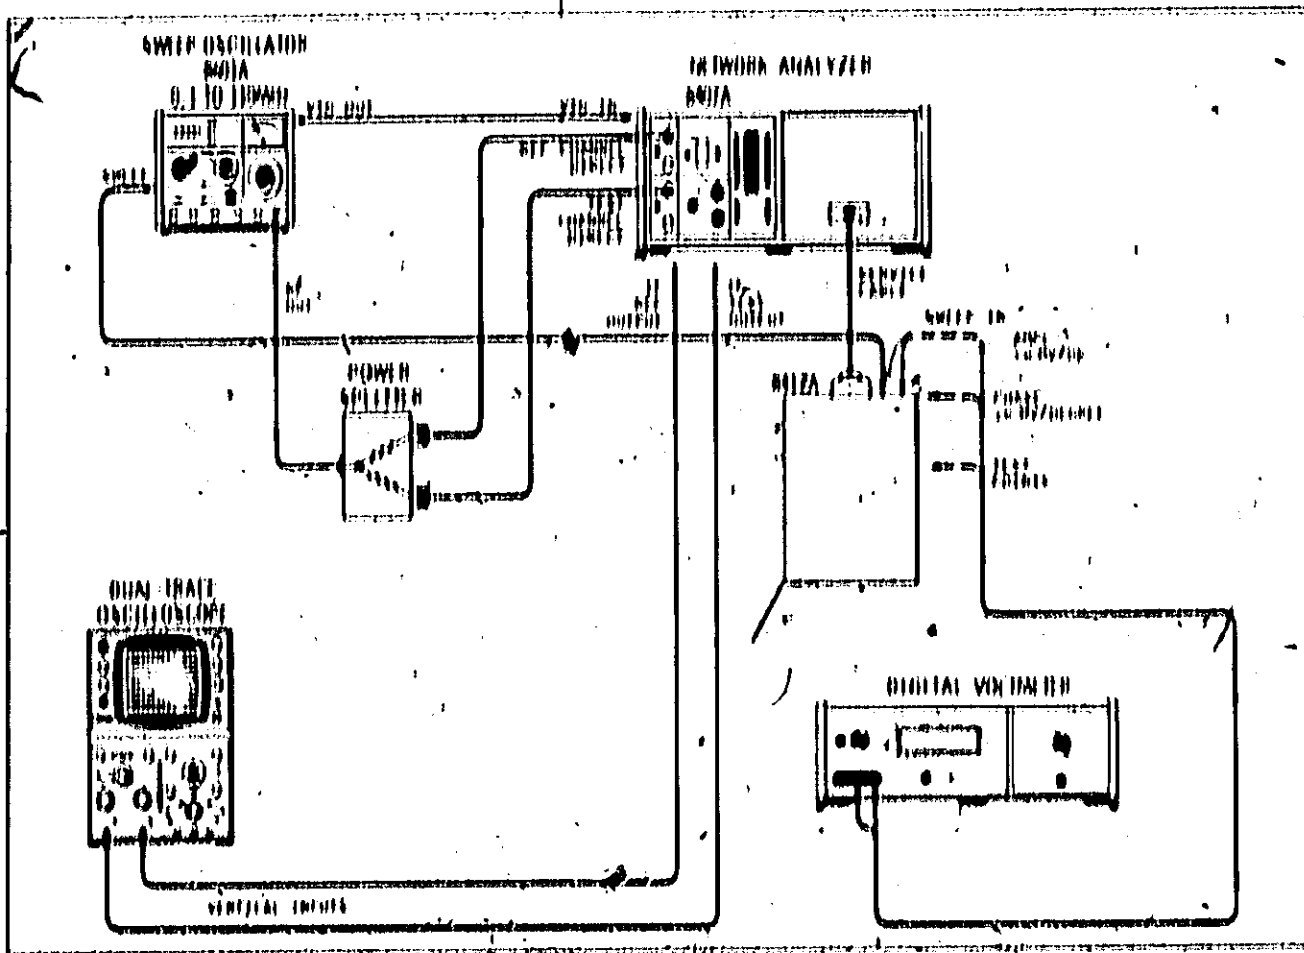

Figure 6-4 Equipment Setup for Aligning Procedures with 8407A Mainframe
1.	<p>INITIAL SETUP</p> <p>DESCRIPTION: Setup and adjust instrument for amplitude and phase trace on CRT.</p> <p>PROCEDURE:</p> <ol style="list-style-type: none"> a. Connect equipment as shown in Figure 6-4. Set sweep oscillator for sweep mode with sweep width of 10 kHz or less. Set the 8407A AMP. VERTICAL to midrange and both DISPLAY REFERENCE switches to top position. Set DISPLAY REFERENCE CAL so that zero dB is at the top on both scales. Set 8407A REF CHAN LEVEL, ADJ switch to the middle position. Adjust sweep oscillator HF output for REF CHANNEL LEVEL meter indication at the top of the OPERATE range.